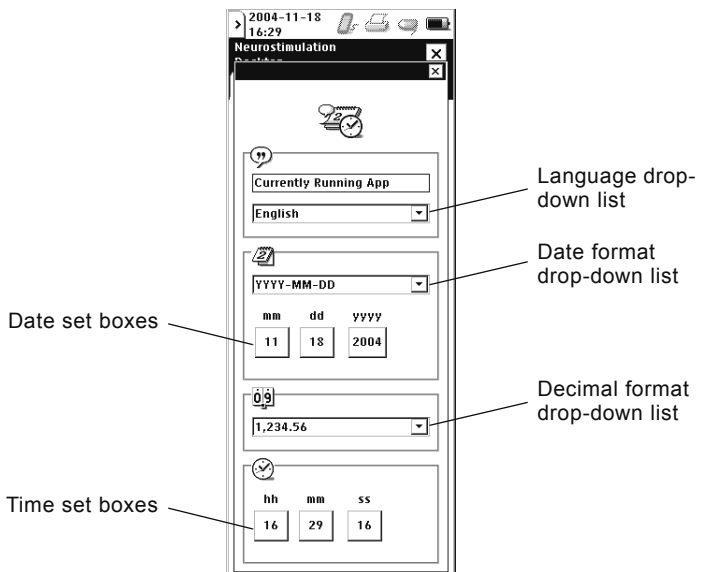

Figure 31. Localization options screen.
3. Select a Language, Date, Decimal, or Time format option (Figure 31).